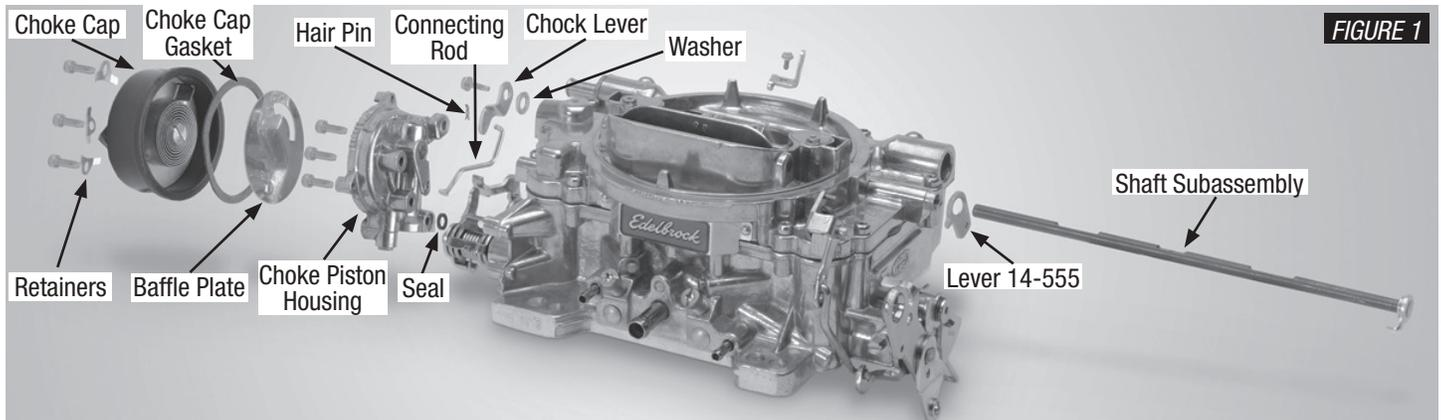

FIGURE 1
3. Remove the choke hex head screw securing the choke lever. The hex head screw will be reused, the choke lever can be discarded. (Figure 1).
7. Place the 1/4" AN washer from the kit on the protruding end of the shaft subassembly. Install the new electric choke lever using the factory hex head screw (Figure 1). **NOTE:** Verify that the choke valve and linkages work freely. It may be necessary to remove the 1/4" AN washer if the shaft is binding.
10. Place the connecting rod into the keyed slot of the choke housing lever as shown in Figure 6. Place the choke piston housing seal into the cast recess of the choke housing (Figure 1 & 6).
11. Install the choke piston housing on the carburetor using the three self-tapping #20 Torx screws (Figure 1).
12. Place the unattached end of the connecting rod through the hole on the electric choke lever and secure it with the supplied hair clip retainer (Figure 1).
13. Install the baffle plate with the indentation facing the carburetor (Figure 1). Place the cap gasket onto the baffle plate and install the choke cap so that piston lever sits in the coil slot (Figure 7).